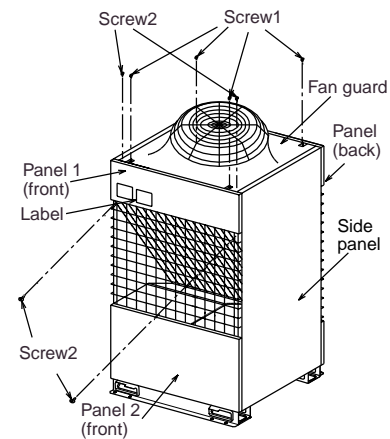

Fig.1
- Attach the supplied label on the unit, referring to Fig.1.
- Remove the Panel 2, referring to Fig.1.